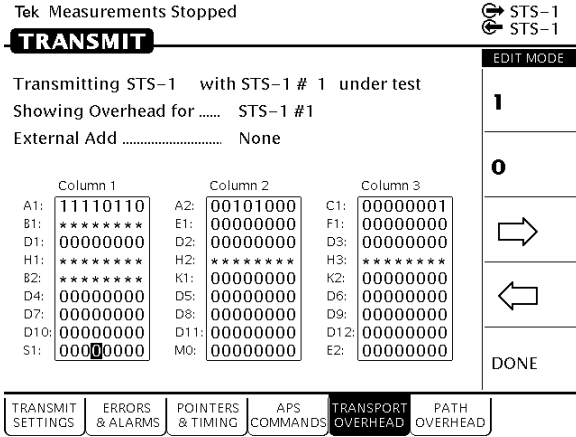

Figure 3–29: Editing an Overhead Byte
3. Turn the knob to highlight the byte you want to edit. See Figure 3–28.
- Define your own byte with the buttons next to **1** and **0**. Use the left and right arrow buttons to move the cursor from one bit to the next. See Figure 3–29.